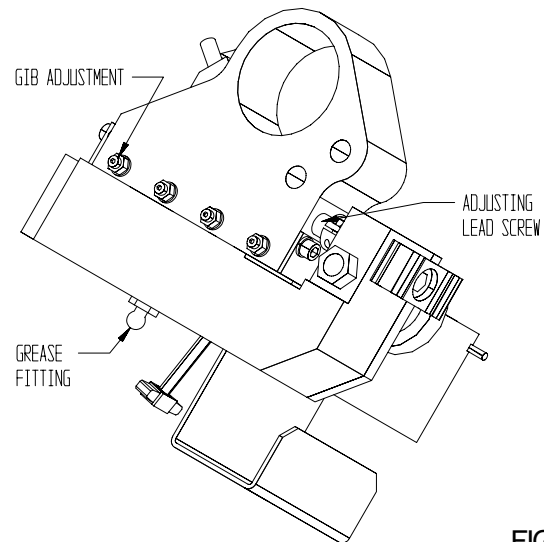

FIG. 9
2. Use the grease fitting provided to grease the dove tail with high quality lithium grease monthly. Wipe off excess grease. See FIG. 9.
3. Wipe and re-oil with spray lubricant, the grinding wheel diameter adjusting lead screw every three months. Wipe off all excess lubricant. See FIG. 9.
4. Check the gib adjustment on the Grinding wheel diameter adjustment every 3 months. See FIG. 9.